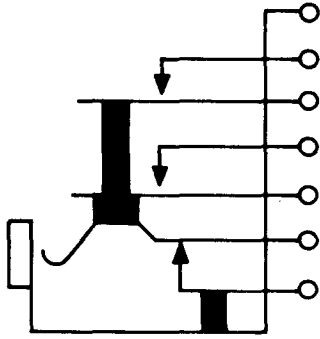

Fig. 15—394C Jack
**2.15 394C:** This single-mounted jack (Fig. 15) is used with the 347 or similar-type plugs. This jack is intended to be mounted with the springs in a vertical plane.